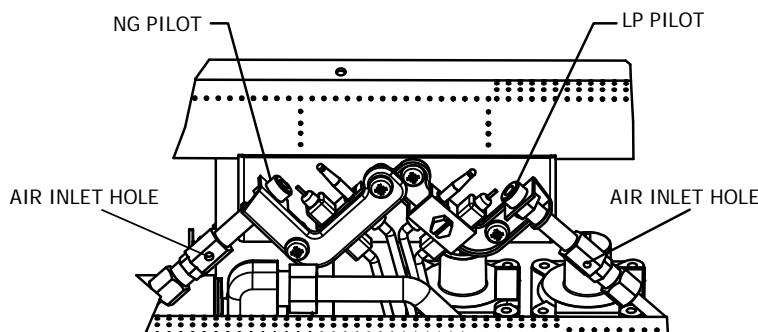

Fig. 25 - Pilot Inlet Air Hole
6. In case any large clumps of dust have now been pushed into the burner repeat steps 3 and 4. Clean the pilot assembly also. A yellow tip on the pilot flame indicates dust and dirt in the pilot assembly. There is a small pilot air inlet hole about 2" from where the pilot flame comes out of the pilot assembly (see Figure 25). With the unit off, lightly blow air through the air inlet hole. You may blow through a drinking straw if compressed air is not available.